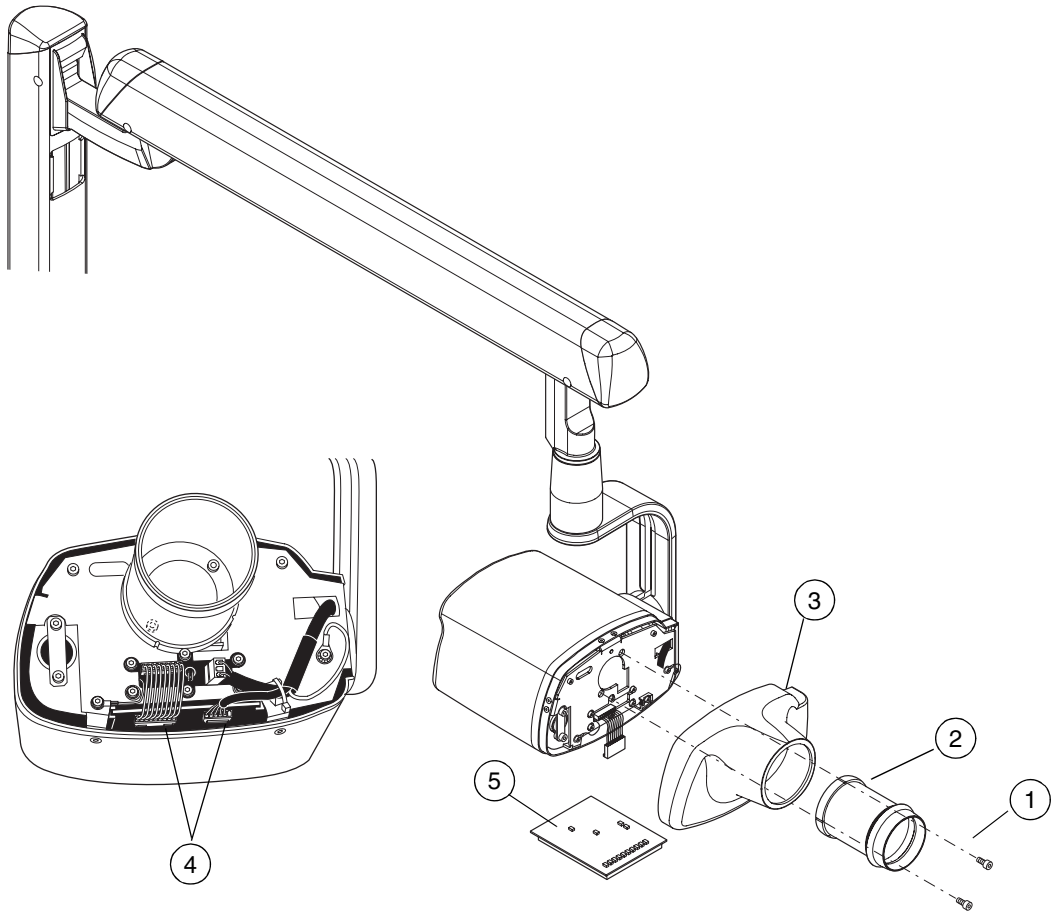

Figure 9
- a) Unscrew the two M4x20 DIN 7984 fastening screws (Fig. 9, 1) of the cone (Fig. 9, 2) (inside the cone).
- b) Remove the tube head front cover (Fig. 9, 3) and the cone.
- c) Disconnect the two connectors from the tube head PCB (Fig. 9, 4).
- d) Pull the tube head PCB (Fig. 9, 5) from the tube head.